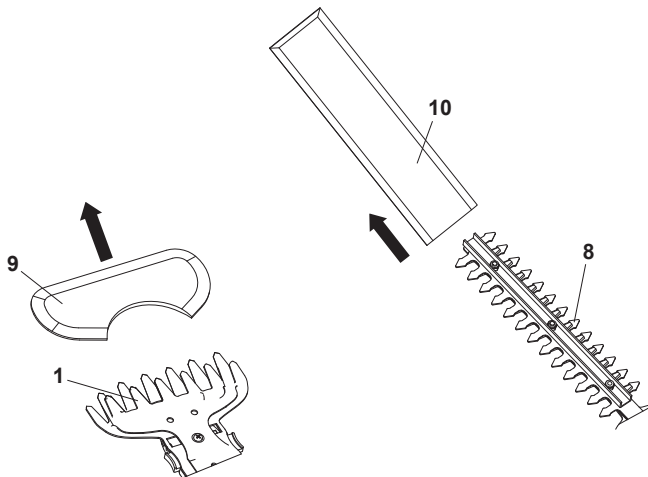

Fig. 3
1. Remove the grass shear blade cover (9) from the grass shear blade (1) before operation;
Remove the hedge trimmer blade cover (10) from the hedge trimmer blade (8) before operation (Fig. 3).